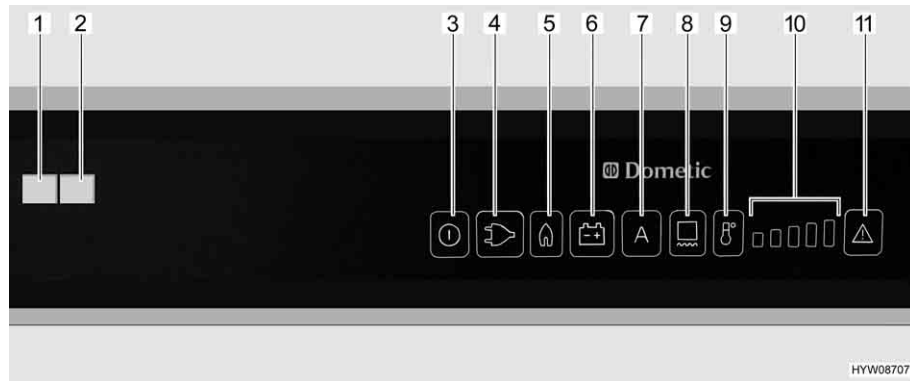

Fig. 198 Operating controls for the refrigerator (Dometic RMD)
If the "AES" operating mode is set, the 230 V supply is **not** connected and the vehicle engine is **switched off**, the AES selects the gas supply. When selecting gas operation the ignition fuse is opened automatically so gas can get into the burner. At the same time the electronic ignition is activated. If the gas flame is extinguished, e.g. by blast of wind, the ignition is activated immediately and re-ignites the gas. If there is a fault in gas operation, the illuminated buttons "Gas" (Fig. 198,5) and "Fault" (Fig. 198,11) flash. The "Fault" indicator lamp (Fig. 198,1) lights up and an alarm sounds for 20 seconds.
When turned on the first time the refrigerator automatically selects the middle thermostat position. This position can be adjusted manually using the temperature range selection button (Fig. 198,9). The indicator lamps (Fig. 198,10) show the selected thermostat position. The refrigerating temperature for all three types of power is set with the temperature range selection button. It takes a few hours till the refrigerator reaches its normal operating temperature. When changing over the operating mode the thermostat setting will be maintained. The refrigerating temperature is retained regardless of the type of power being used.
- Switch on the frame heater for a 2 hour period: Push button (Fig. 198,8) once. One bar is lit up on the temperature range display (Fig. 198,10).
- Switch on the frame heater for a 5 hour period: Push button (Fig. 198,8) twice. Two bars are lit up on the temperature range display (Fig. 198,10).
- Setting frame heater for continuous operation: Push button (Fig. 198,8) three times. Three bars are lit up on the temperature range display (Fig. 198,10).
The temperature range display (Fig. 198,10) shows the operating time of the frame heater for several seconds.
High external temperatures and high humidity can cause drops of water to form on the metal frame of the freezer compartment. This is why the refrigerator is equipped with a frame heater for the freezer compartment. If the temperature and humidity are high, switch on the frame heater by pressing the button (Fig. 198,8). This prevents corrosion. If the frame heater is switched on, the illuminated button (Fig. 198,8) is lit.
- Press and hold the On/Off button (Fig. 198,3) for about 2 seconds. The refrigerator switches on and the previously set power type or "AES" is displayed.
- Use the temperature range selection button (Fig. 198,9) to set the refrigerating temperature. The indicator lamps (Fig. 198,10) show the selected thermostat position.
- Press and hold the On/Off button (Fig. 198,3) for about 2 seconds. The refrigerator switches off and no displays are lit.